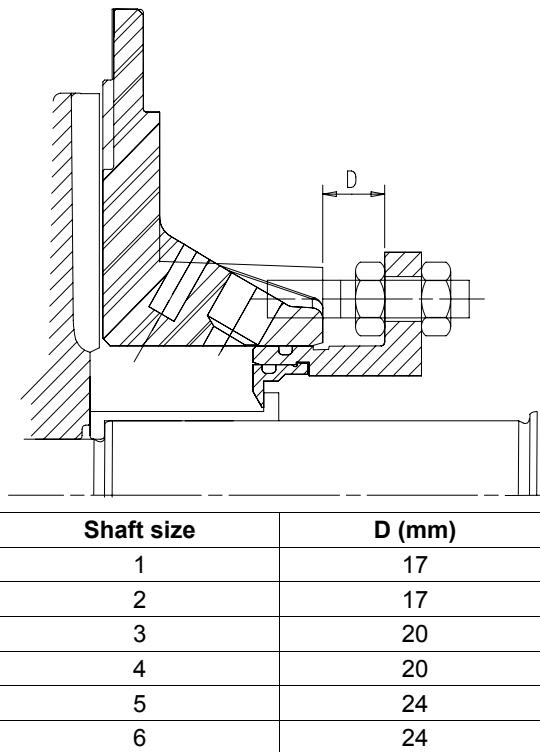

Fig. 6
- 9 When the exchange unit is fully assembled, pull the thrust ring (475.21) and the static seal (435.21) against the shaft wearing sleeve (524.21). The assembly groove (3 mm x 0.5 mm) at the thrust ring comes out 0.5 mm from stuffing box housing end. Tighten the nuts (920.21) by hand so that the thrust ring is precisely aligned with the shaft. Tighten the locking nuts. The distance between the face of the casing cover and the thrust ring is according to Fig. 6.